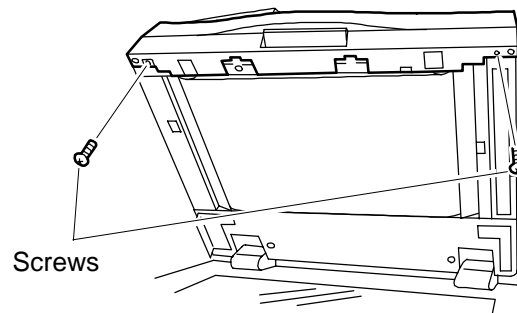

Fig. 2
- 1) Remove the 2 binding screws at the bottom of the ADF. (Fig. 2)